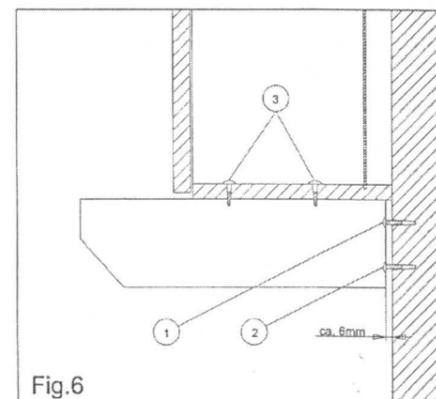

Fig.6
2. Drill the two fastening holes, drive in the wall plugs and screw in the screws until their heads are about 6 mm from the wall (fig. 6/1).
3. Place the hood to the wall in order to check that it seats properly. Then mark the position of the two holes (fig. 6/2). Take it off from the wall now, drill the holes and fit the plugs.
4. Place the hood once again to the wall, tighten the screws (fig. 6/1) and introduce the screws (fig. 6/2) from the inside of the appliance.
5. Turn the cupboard back over and stand it on the top of the cooker hood and fasten the hood to the cupboard by means of four screws screwed through the holes that were drilled in the bottom of the cupboard (fig. 6/3).